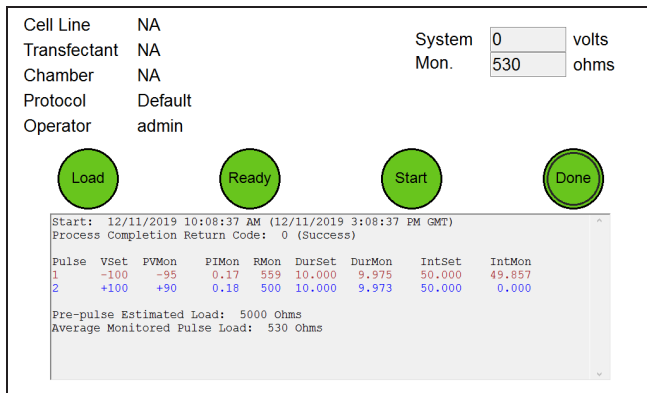

Figure 11: Pulse Delivery Screen — Post-Pulse
5. Touch the **Start** button. The system will deliver the set pulse protocol. When delivery is complete, the **Done** button will turn green and the pulse log will be displayed in the text box, as pictured in Figure 11: Pulse Delivery Screen — Post-Pulse.
6. Touch the **Done** button to return to the **Welcome** screen. The identification fields will be reset. Repeat the procedure for each pulse delivery (See Figure 11).